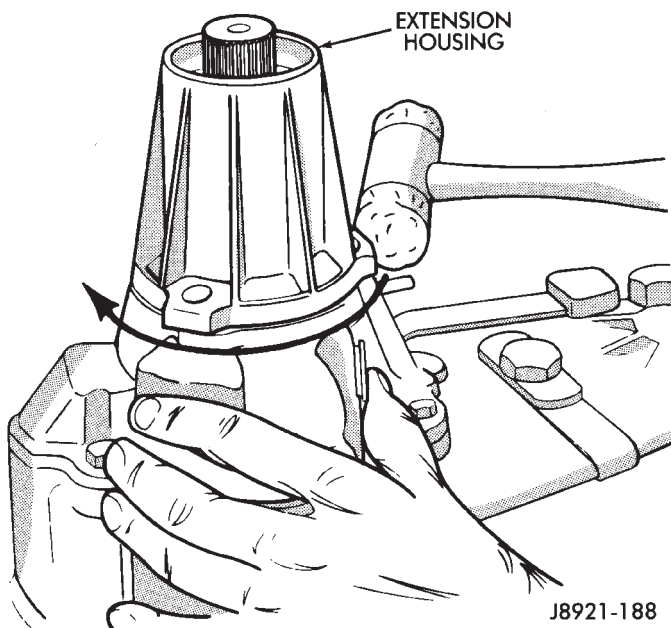

Fig. 1 Extension Housing Removal
- (1) Remove fill and drain plugs.
- (2) Remove front yoke. Discard yoke seal washer and nut. They should not be reused.
- (3) Move transfer case range lever rearward to 4L position.
- (4) Remove extension housing attaching bolts.
- (5) Tap extension housing in clockwise direction to break sealer bead and remove housing (Fig. 1).